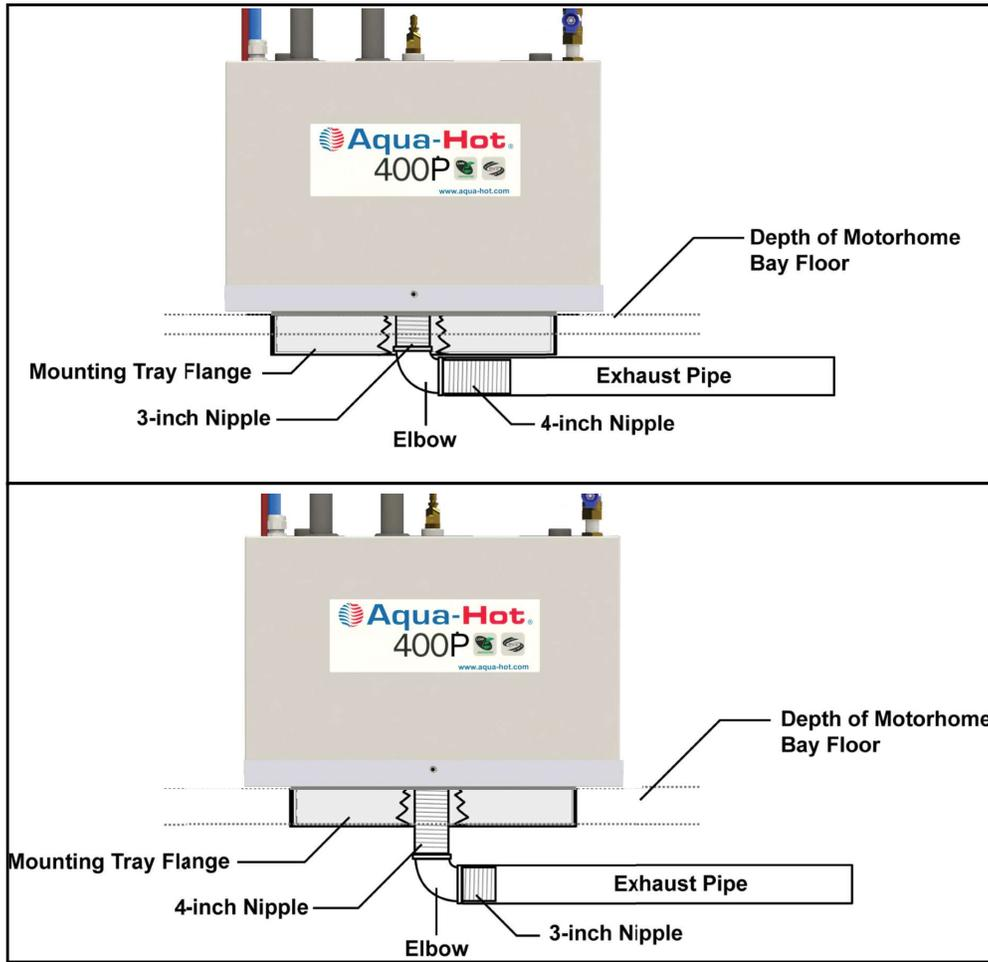

Figure 18
- The Aqua-Hot is supplied with a 3 inch and 4 inch black pipe nipple (1.5 inch diameter) along with a 1.5 inch exhaust elbow. Reference Figure 16. These three exhaust system components MUST BE utilized with all product installations. Be sure to reference Figure 18 and 19 to determine which exhaust nipple should be connected directly to the Aqua-Hot's exhaust port (the 3 inch of the 4 inch black pipe nipple).